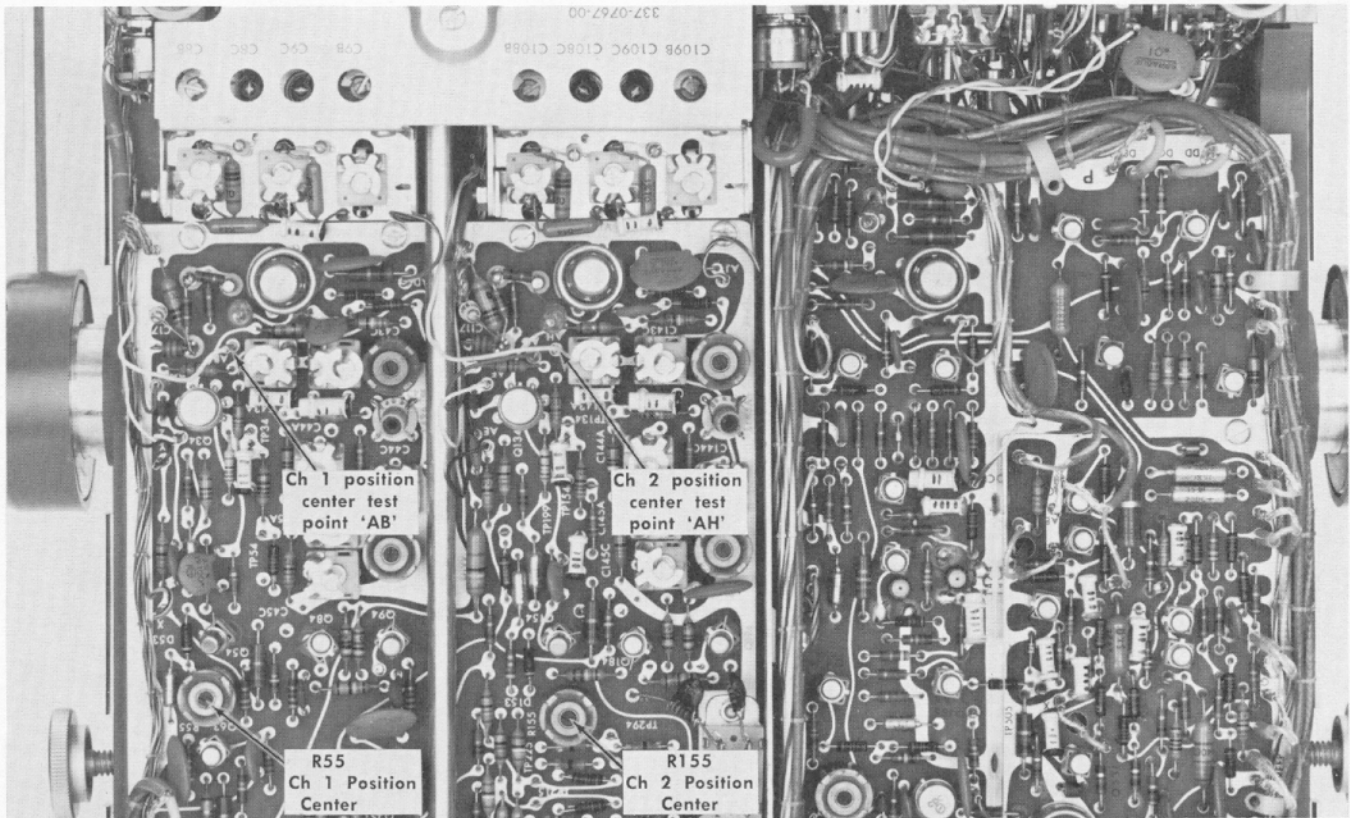

Fig. 6-19. Location of Channel 1 and 2 position center test points and adjustments (Vertical Preamp board).
13. Adjust Channel 1 and 2 Position Center ①
a. Connect the dc voltmeter to the Ch 2 position center test point (pin connector 'AH') on the Vertical Preamp board (see Fig. 6-19).
d. Adjust—Ch 2 Position Center adjustment, R155 (see Fig. 6-19), to position the trace to the centerline.
f. Connect the dc voltmeter to the Ch 1 position center test point (pin connector 'AB') on the Vertical Preamp board (see Fig. 6-19).
i. Adjust—Ch 1 Position Center adjustment, R55 (see Fig. 6-19), to position the trace to the centerline.